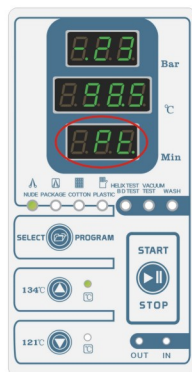

Fig.5.4-9
(13)**Balance atmospheric and print sterilization record stage:**When the drying work into the last minute, the vacuum pump be stopped.the control system will open the air solenoid valve(Ev3) for balance between the pressure in chamber and atmospheric,so that after the end of sterilization,you can easily open the door.when the “operation display window” show “Pt” ,it means the control system has transport sterilization data to external mini-printer and Print.(Fig.5.4-9)